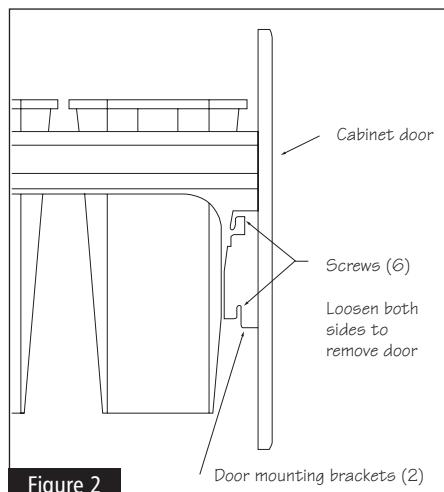

Figure 2
### 3 To detach the top mount housing from the cabinet door loosen the six (6) screws attaching the brackets to the door as shown in Figure 2.